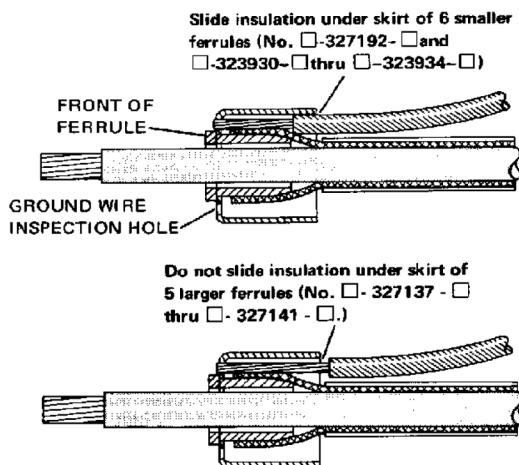

Figure 10
2. Insert ground wire into ferrule. See Figure 10.